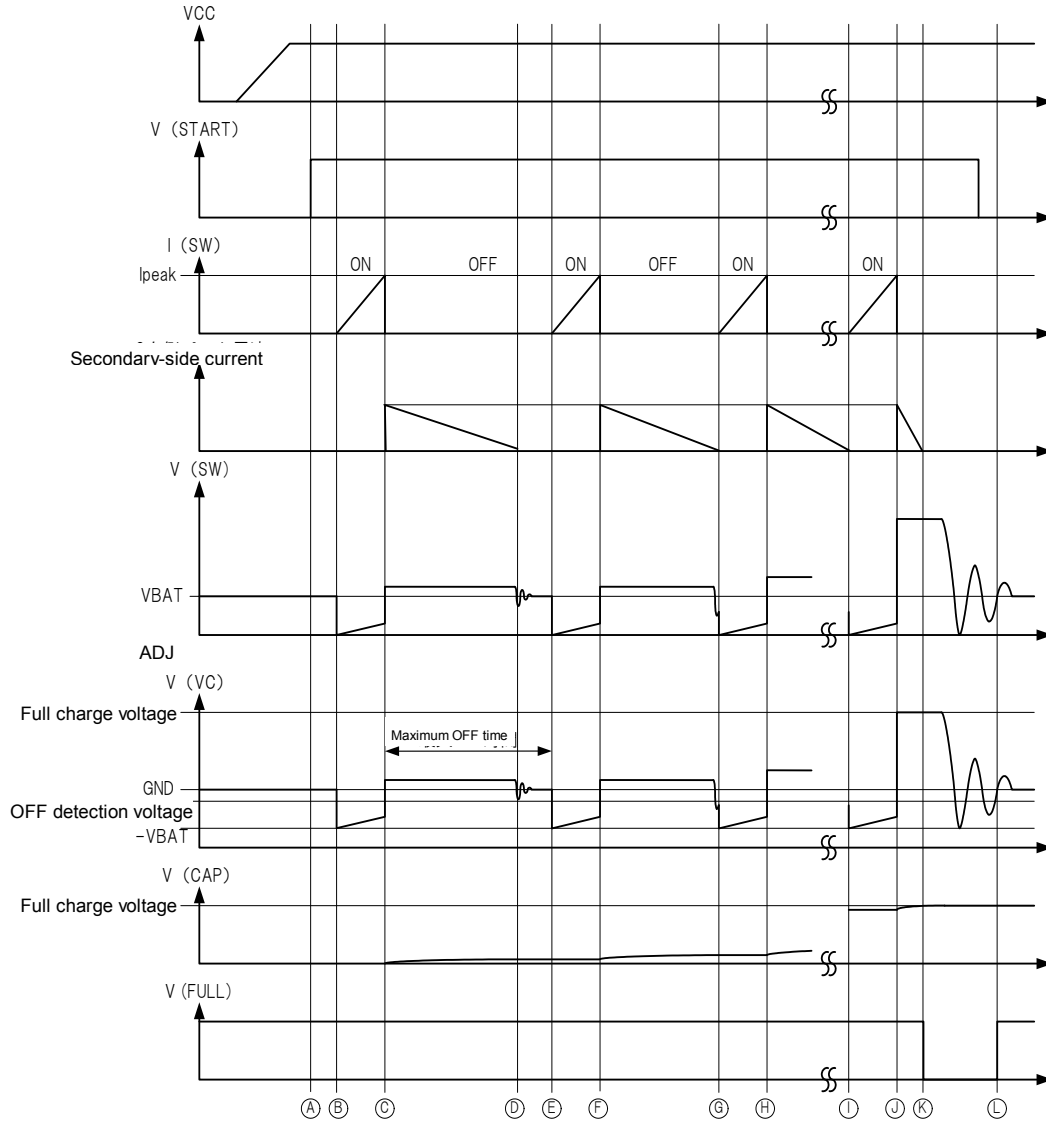

Fig 32. Timing Chart 2: Switching Operation
The switching operation of this IC is shown in Fig.32 Timing Chart 2.
If the START pin is set to "H", all internal circuits are reset, the internal PowerTr is turned ON. (See Fig 32. Time ①→②.) While the internal PowerTr is turned ON, a current is passed into the SW pin. When the current specified at the RADJ pin voltage is reached, the PowerTr is turned OFF. (See Time ③ in Fig 32.) The time t_{ON} when the PowerTr is ON is indicated as follows:
When the energy release to the transformer secondary-side is completed, the VC pin voltage and the SW pin voltage produce resonance by the parasitic capacitance and the transformer inductance. (See Time ⑩ in Fig 32.) At this time, unless the VC pin voltage becomes the GND voltage or less shown, the PowerTr remains OFF till the maximum OFF time is reached. (See Time ⑪ in Fig 32.) As soon as the OFF detection voltage or less is reached, the PowerTr is turned ON. (See Time ⑫ in Fig 32.) The time, t_{OFF} when the secondary-side releases energy is represented by the following equation:
When it is detected that the internal PowerTr is left OFF for over the maximum OFF time specified in the electrical characteristics, the PowerTr is forced to be turned ON. This occurs unless the VC pin voltage becomes the OFF detection voltage specified in the electrical characteristics or less. (See Time ㉟ in Fig 32.)
VC pin node is divided by between transformer Secondary node and Fast recovery diode anode side by resistor R_{FB1} , R_{FB2} and R_{FB3} . When VC pin voltage reach until full charge voltage as Fig.32 timing chart ①~④, charge is stopped.